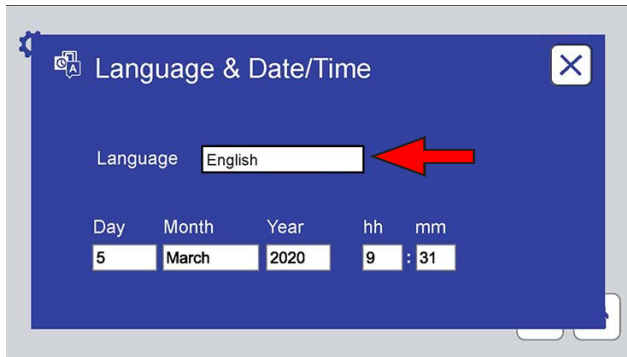

Figure 11.7i: This screen displays controls to select the control interface language.
- o Language (Figure 11.7i through Figure 11.7l). Controls can be displayed in any of seventeen (17) different languages: